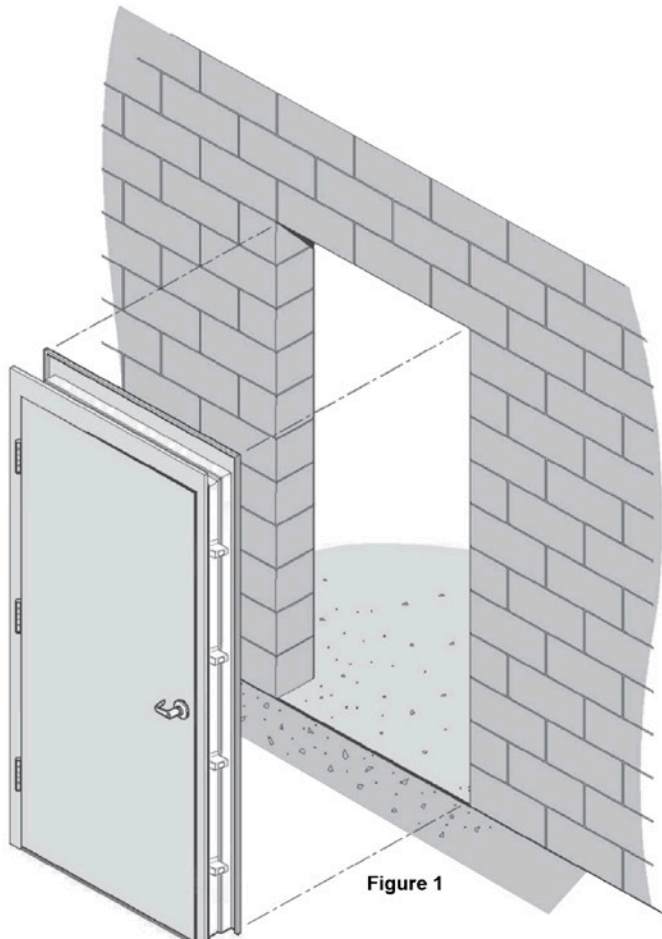

Figure 1
2. Uncrate the door, position door in place within the wall as desired. Temporary support may be needed to help hold door in place. (Figure 1)